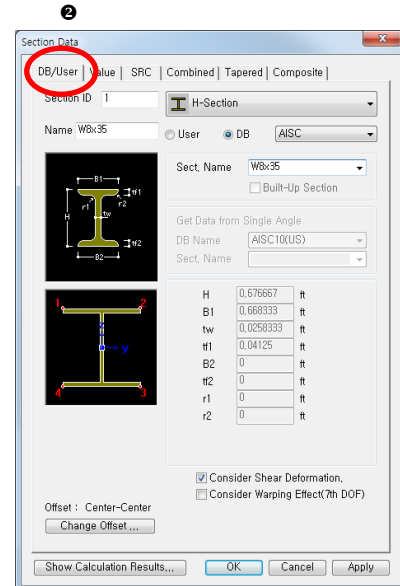

Figure 1.8 Section Data
10. Confirm the **DB/User** tab on the top of the **Section** dialog box (Fig.1.8– ②).